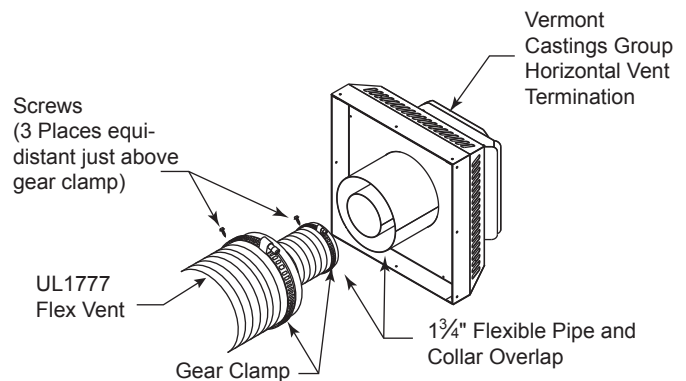

Figure 40 - Typical Horizontal Flex Vent Installation
1. Connect the 5" flexible vent to the horizontal termination as in Figure 40.
2. Connect the 8" flexible vent to the termination ring as in Figure 40.
3. Review Figure 40 for proper overlap and clamp placement.
5. Use only listed and approved terminations and accessories, installed per the termination instructions and Figure 40.